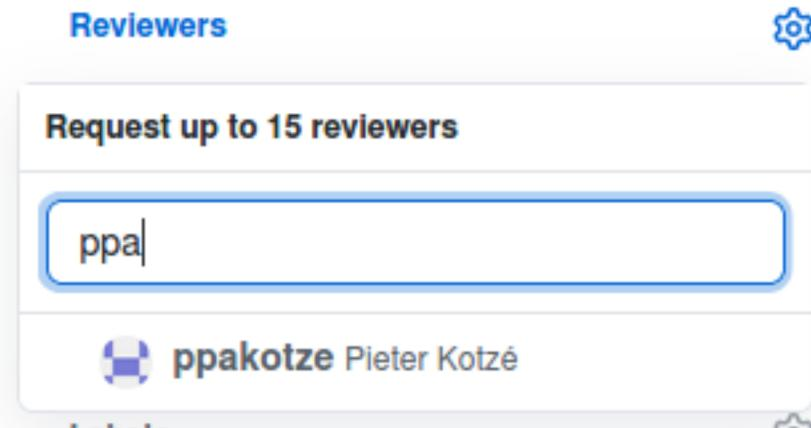

Figure 4.8: Github reviewers dialogue
- At the right hand side at the top next to “Reviewers”, click on the gear icon. It will drop down a list of reviewers to choose from. Type “ppakotze” (see **Figure 4.8**) in the search field to find Pieter K and then click on Pieter K to request him to approve your pull request (It will show a check mark next to his name, and then under “Reviewers” you will see a yellow dot next to his name).